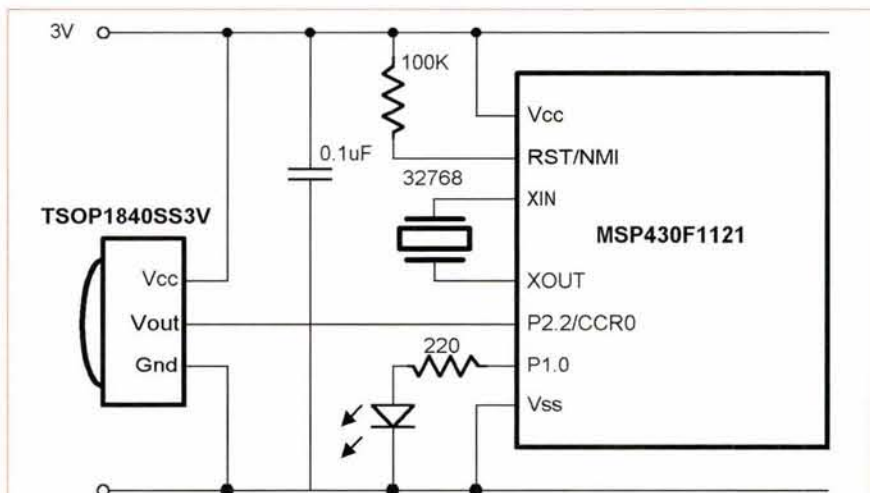

Figure 1. MSP430 Remote Control Decoder Circuit.
How many infrared (IR) remote controls are lying around your house? Been curious on how they work? Or have you ever just wanted to add remote control to one of your very own projects? In the first of a two-part series, we'll explore how TV IR remote control works with an easy-to-build project that decodes the information packets used to control your TV and other electronic equipment. Control for our project comes from a 20-pin MSP430F1121 Flash-MCU. Add a three-pin IR sensor, and a complete TV IR decoder can be constructed in minutes, as shown in Figure 1.